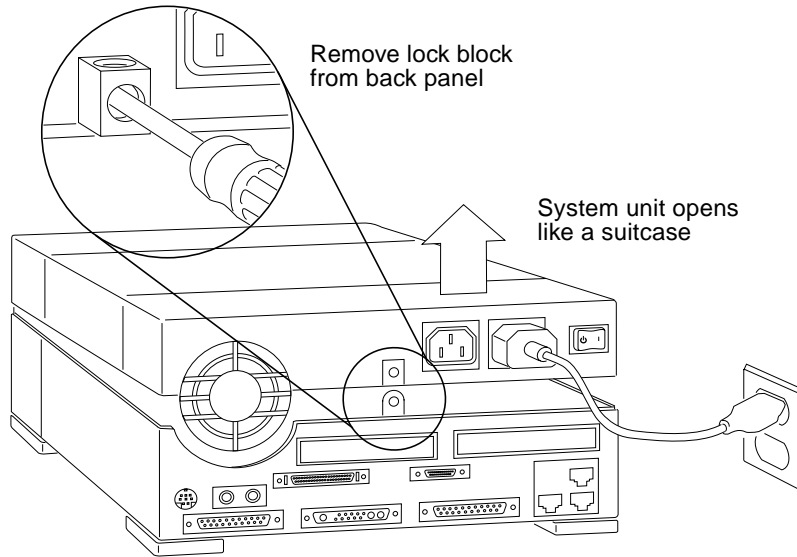

FIGURE 7-1 Opening the System Unit
3. Remove the screw that secures the lock block to the back panel (see FIGURE 7-1).
4. Grasp the unit top at its rear corners and carefully open the system unit like a suitcase (see FIGURE 7-1).